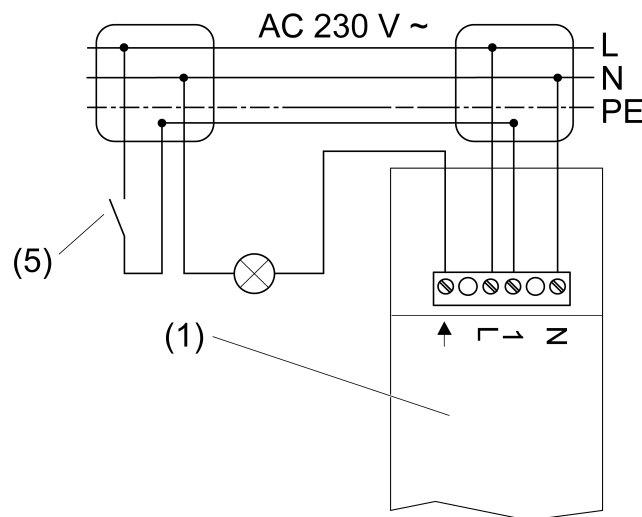

Figure 3
- Connect the switch actuator (1) and if necessary the installation button (5) in accordance with the connection diagram (Figure 3).